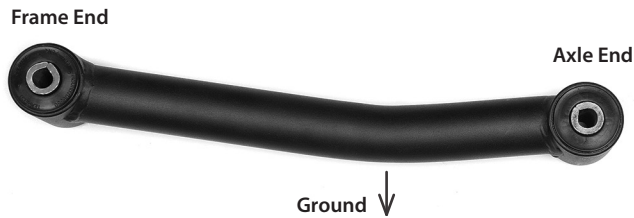

Figure 5
16. Install the new driver's and passenger's side lower control arms with the factory bolts/nuts/washers with the short side from the bend towards the axle with the bend down. **Figure 5** Snug the bolts but do not tighten completely. The bolts will be tightened with the weight of the vehicle on the suspension.